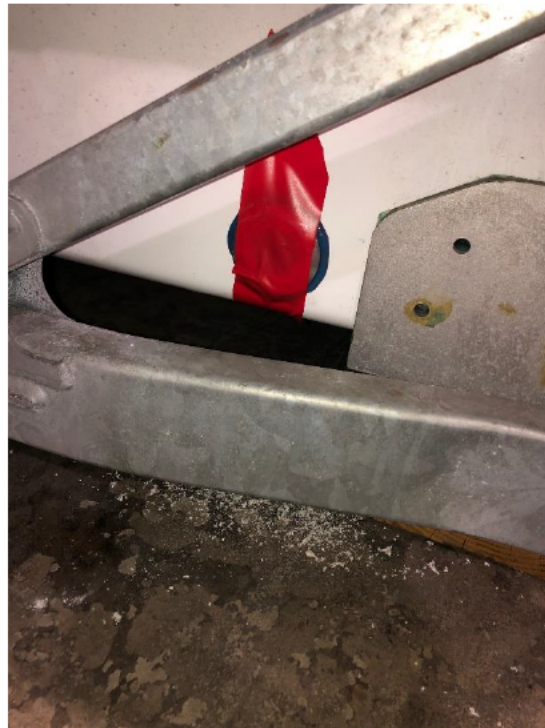

Figure 28: Secure Port with Tape for 30 minutes
10. Secure the installed port with tape while the adhesive dries for a minimum of 30 minutes per Figure 28.